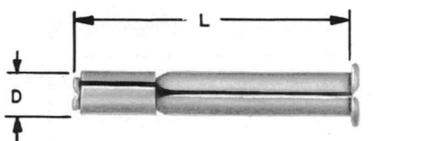

Fig. 1 — B Drive Anchor
1.03 B drive anchors (Fig. 1) are used for permanent installations.